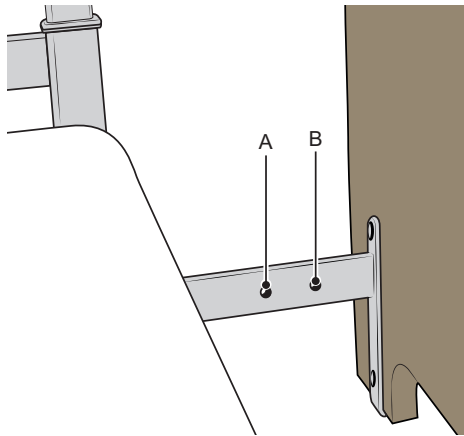

Figure 54
1. With the mattress platform extended, position the bed rail gap filler over one of the holes in the footboard bracket. See Figure 54.